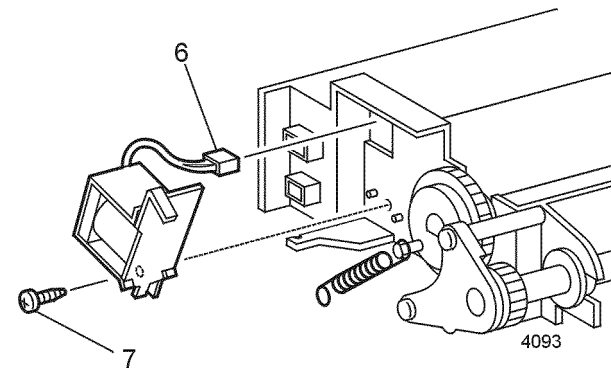

Figure 1 Feed Solenoid
6. Disconnect P/J135 (Figure 1).
7. Remove the screw that secures the feed solenoid (Figure 1). Remove the solenoid.